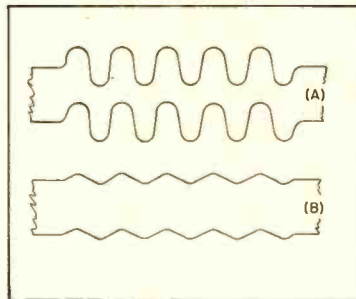

Fig. 2. (A) High-frequency signal recorded at 100% modulation on constant-amplitude basis. (B) Same signal recorded on constant-velocity basis.
itude" type of recording. At high frequencies, however, the stylus would have to make very sharp reversals, as shown at (A) in Fig. 2, with a resultant high velocity. As a matter of fact, it is doubtful if any stylus could follow such a groove at 10,000 cps. At constant velocity of stylus-tip movement, the groove would be more like (B) of Fig. 2. Practically, therefore, the groove is most usually cut with constant amplitude up to some intermediate frequency—generally somewhere between 250 and 800 cps—and at decreasing amplitude but at constant velocity above this frequency, which is known either as the transition frequency or the turnover frequency.